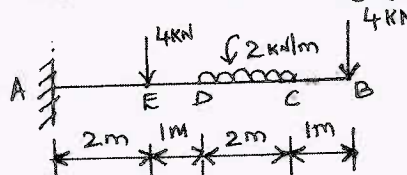

Fig.Q5(b)
b. Draw SFD and BMD for the cantilever beam shown in Fig.Q5(b).